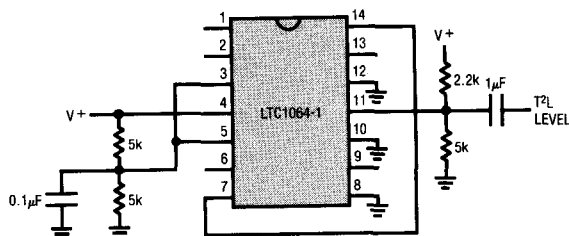

Figure 3. Level Shifting the Input T²L Clock for Single Supply Operation, V⁺ > 6V
2.2V and 3V respectively. The logic threshold levels vary ±100mV over the full military temperature range. The recommended duty cycle of the input clock is 50% although for clock frequencies below 500kHz the clock "on" time can be as low as 200ns. The maximum clock frequency for ±5V supplies is 4MHz. For ±7V supplies and above, the maximum clock frequency is 5MHz. Do not allow the clock levels to exceed the power supplies. For clock level shifting, see Figure 3.